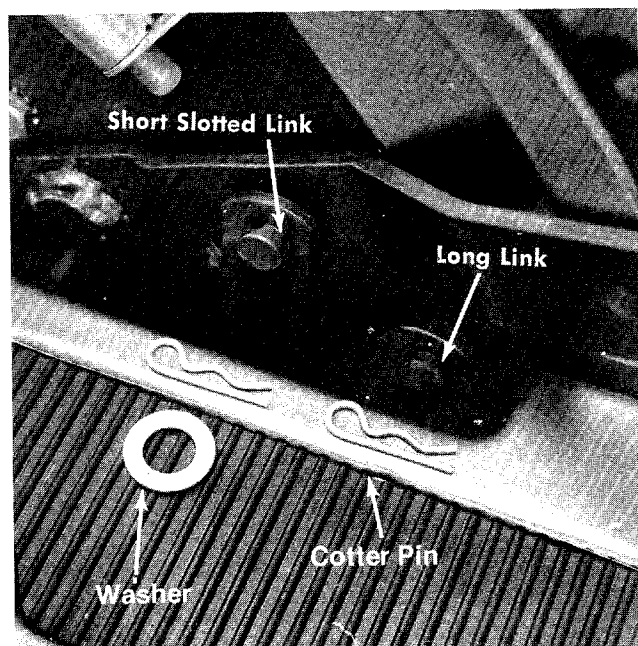

FIGURE 7 CENTER LINK ASSEMBLY
- d. Place the two center links through the hole in the foot rest and attach the short slotted link to the pin in the lift arm and attach the long link to the pin in the frame. See figure 7..
- e. Place washer (1/2" I.D.) over the short slotted link and secure both links with cotter pins. See figure 7.